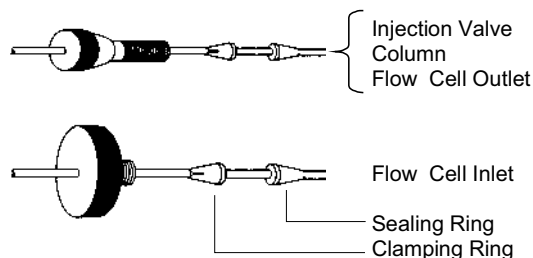

Fig. 6 DYNASEAL Capillary connections
6. Push the bushing, the clamping ring, and the sealing ring onto the capillary. Please take care on the sequence and orientation of fittings, see Fig. 6 „DYNASEAL Capillary connections“.
9. Connect the flow cell outlet (6) using a capillary or teflon tube (ID > 0,5 mm) to a waste bottle.